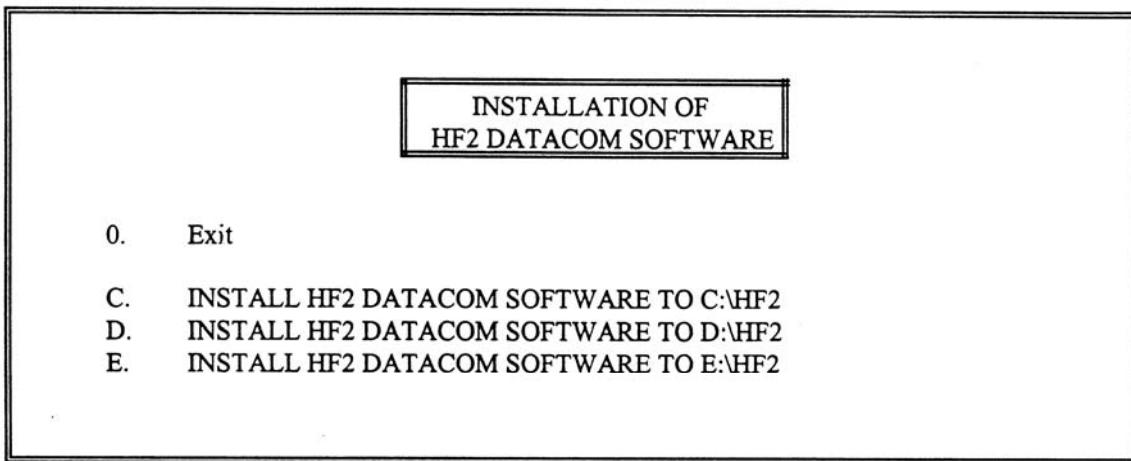

Figure 9-2. HF2 Datacom Install Screen.
- 7 Type INSTALL [ENTER]. The computer monitor displays the DATACOM installation instructions, a portion of which is shown in Figure 9-2.